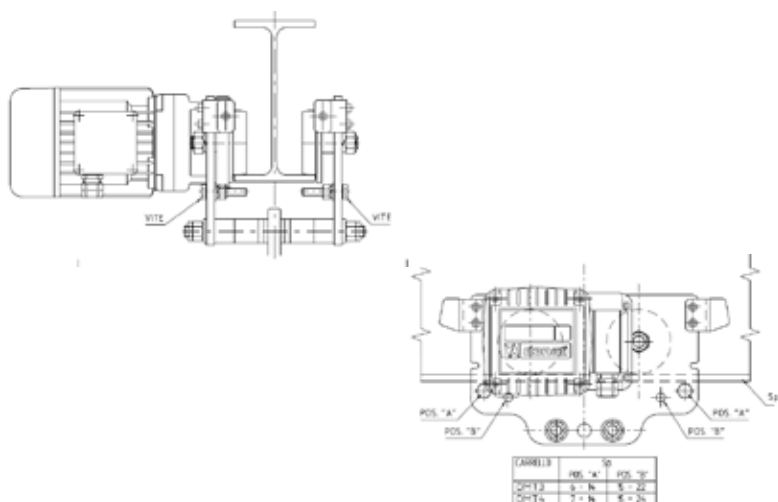

fig.23
1. Check that the anti-tip screws of the DMT3 and DMT4 trolleys are positioned in 'A' or 'B' depending on the thickness of the beam flange and that the tightening torque is 50 Nm. (fig.23)
3. Lower the pallet by about 15 cm in order to align the geometry of the four wheels on the lower flange of the beam. (fig.23)